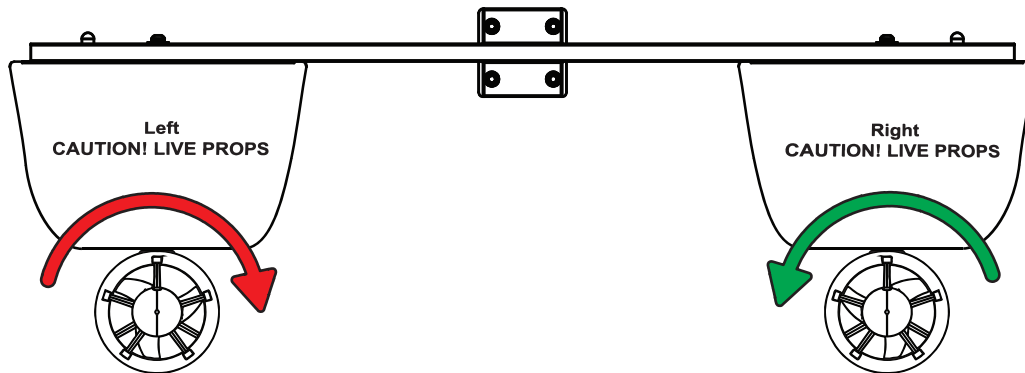

Figure 55: HyDrone™ AutoNav Plus™ Prop Rotation
- Motor must rotate clockwise(CW) (Figure 55)
- Motor must rotate counter-clockwise(CCW) (Figure 55)